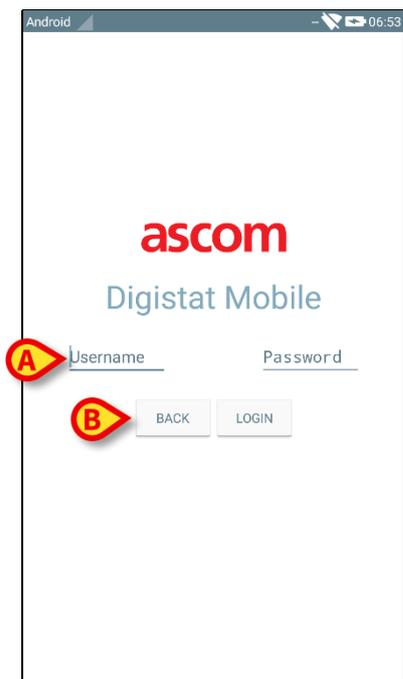

Fig 140
Touch this option to access the login screen (described below - Fig 140).
The following screen will be displayed (Fig 140)
- Insert username and password (Fig 140 **A**).
- Touch the **Login** button (Fig 140 **B**)